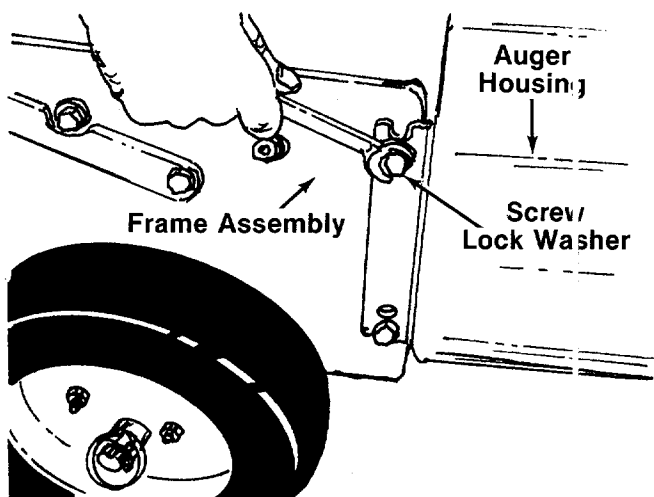

FIGURE 29.
5. Remove the top screws and lock washers which attach the auger housing assembly to the frame assembly. A 9/16" wrench is required. See figure 29.